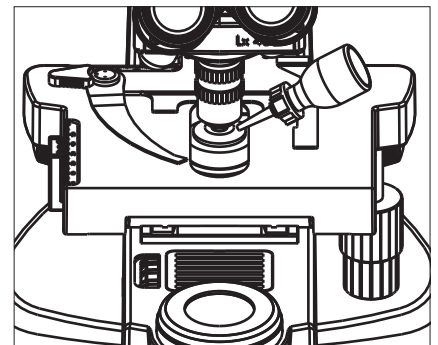

Fig. 4
4. Bring the darkfield condenser to its top most position and pour a drop of immersion oil (PK-035) as shown in Fig. 4